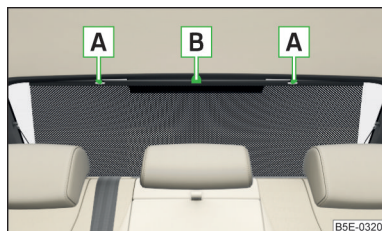

Fig. 60
► Pull the sun screen on the handle **B** » Fig. 60 and hang it in the holder **A**.
► Remove the sun screen from the holders **A** and hold it on the handle **B** » Fig. 60 so that it can slowly roll up into the housing on the boot cover without being damaged.